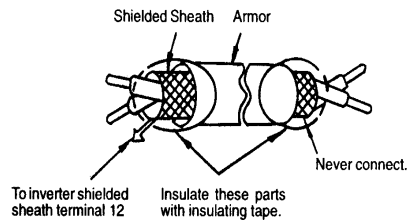

Fig.7 Shielded Wire Termination
- Use twisted shielded or twisted-pair shielded wire for the control circuit line and connect the shielded sheath to the inverter terminal 12. See Fig. 7. Wiring distance should be less than 50 m.